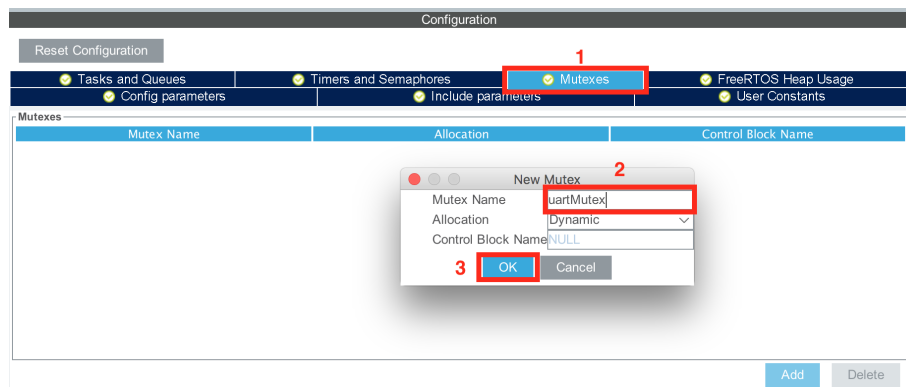

Figure 7: STM32CubeMX Project FreeRTOS Configuration: Add Mutex
1. Add FreeRTOS Mutex to the project as described below in Figure 7